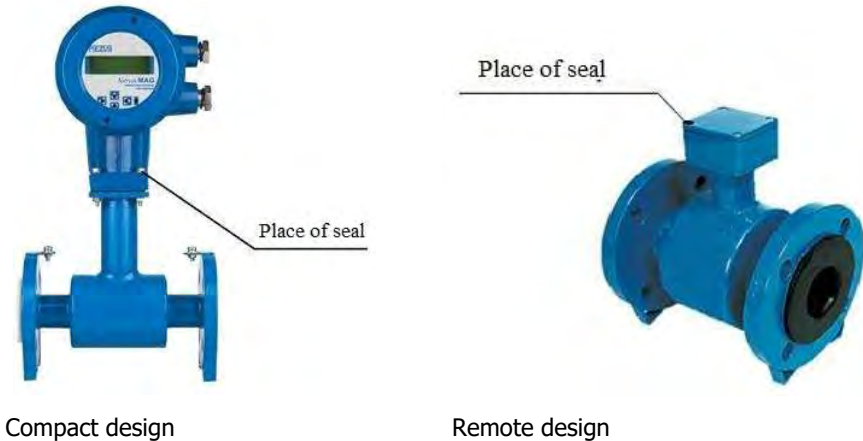

Figure 10.2 Locations of the sensor housing seal
10.3 Stamp sealing shall be done in places shown in Figures 10.2 and 10.3 to confirm the initial or periodic calibration, as well as to exclude unauthorized interference with the settings. This is done by installing a Verification Officer mastic seal or a QCD seal on the housing screws of the structure, or a hanging seal on the lockwire of the bolts that secure the EM to the sensor.